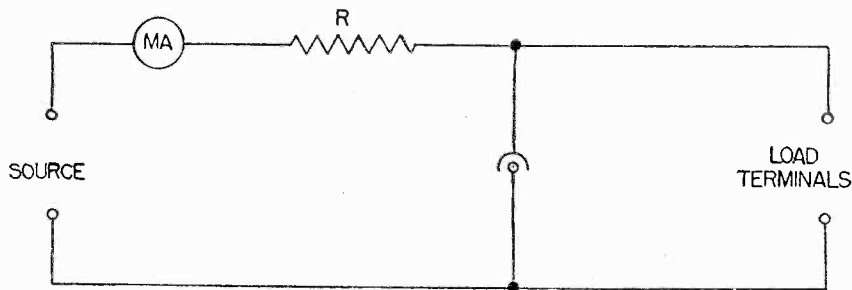

Fig. 4 The circuit used in adjusting the dropping resistance to its proper value.
2. Place a milliammeter (0-100) in series with R and the tube as shown in Fig. 4.